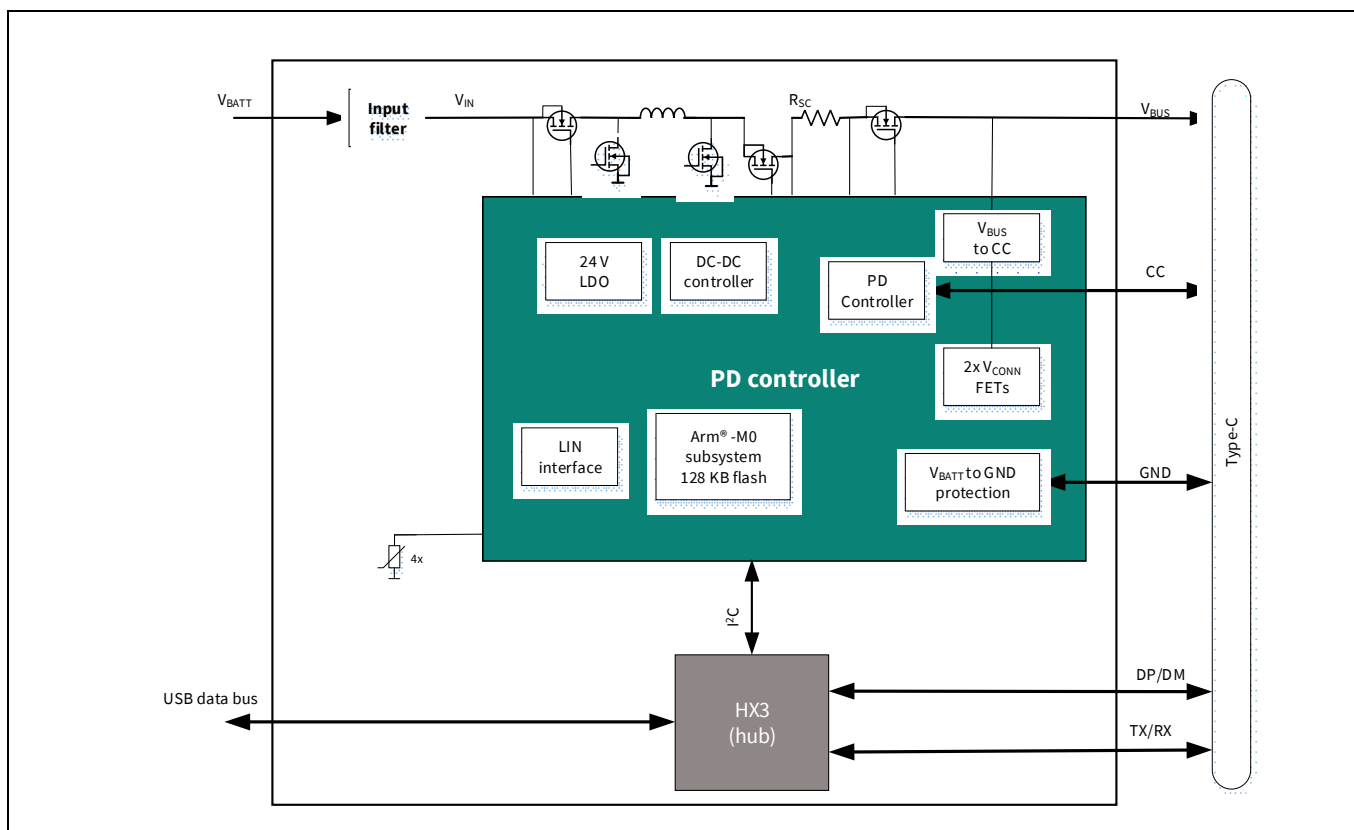

Figure 2 Automotive head unit application
The automotive infotainment applications as shown in **Figure 2**.
EZ-USB™ HX3 Automotive with Power Delivery (PD) **Figure 2** illustrates the overview of Automotive head unit application with HX3 hub and Infineon Power Delivery (PD) controller. HX3 can be used for two to four downstream ports with data and various charging protocols.
The shared link mode requires a separate VBUS control for the removable USB 2.0 device and the embedded SS device. **Figure 2** shows the VBUS control implementation.